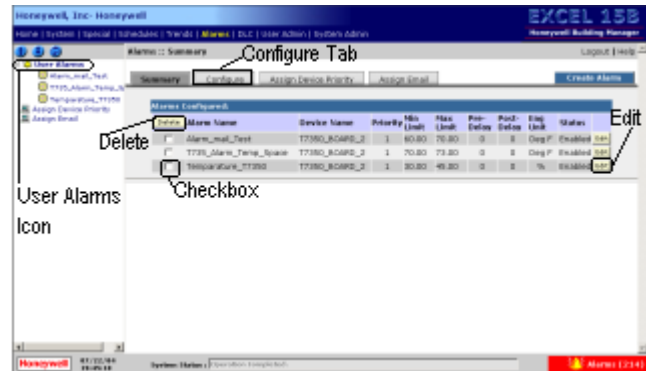

Fig. 66. Alarms::Summary Page
- Click “Configure Alarm”. The “Alarms::Summary” page is displayed with the summary of all configured alarms (refer to Fig. 66).
The “Alarms::Summary” page is displayed (refer to Fig. 66).